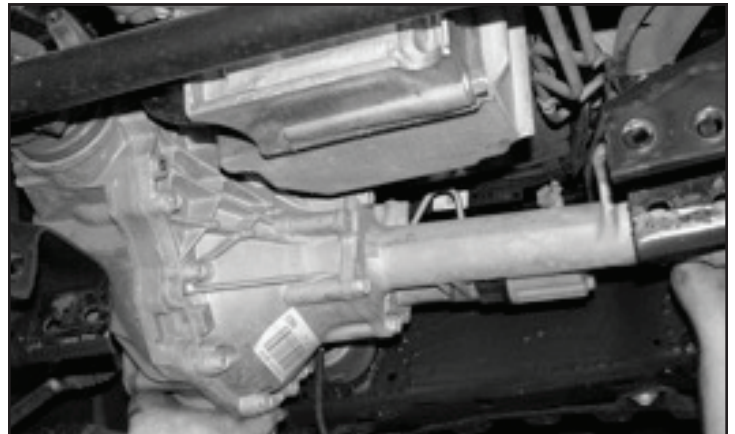

FIGURE 10 - STEP 11
11. Disconnect the drive shaft from the front differential solenoid wiring. Disconnect the differential vent tube and remove the diff. **SEE FIGURE 10**